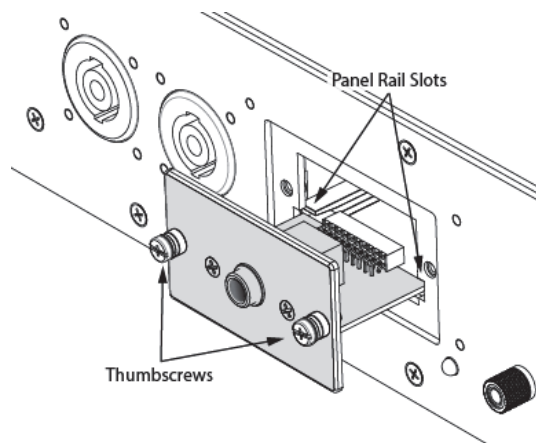

Figure 5
1. Loosen the two thumbscrews to release the connector panel from the APx517 chassis. (See Figure 5)
2. Holding the connector panel by the panel face or by the thumbscrews, align the sides of the panel with the panel rail slots on each side of the panel bay and insert the connector panel straight into the chassis. (See Figure 5)